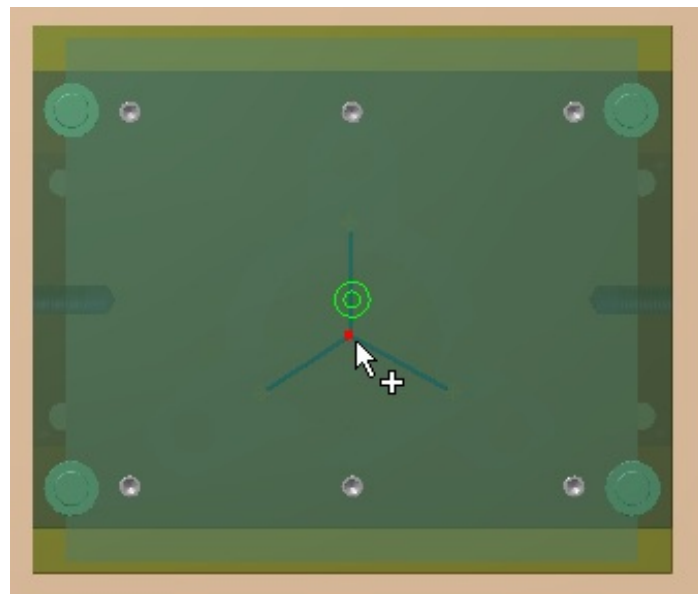

Figure 19-88 The point to be selected
4. Select the point in the modeling area where the three runners meet, refer to Figure 19-88; the preview of the sprue bushing is displayed.